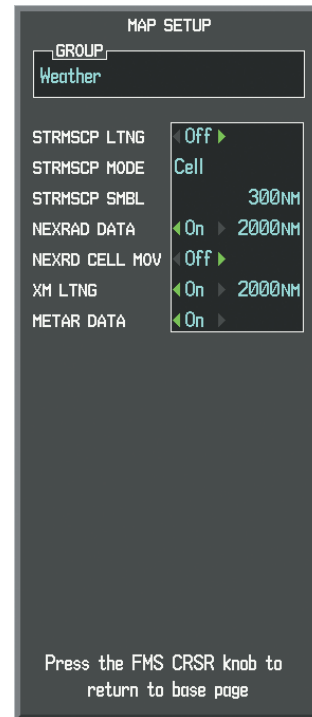

Figure 6-8 Navigation Map Page Setup Menu, Weather Group
- 5) Turn the large **FMS** Knob or press the **ENT** Key to scroll through product selections (Figure 6-8).